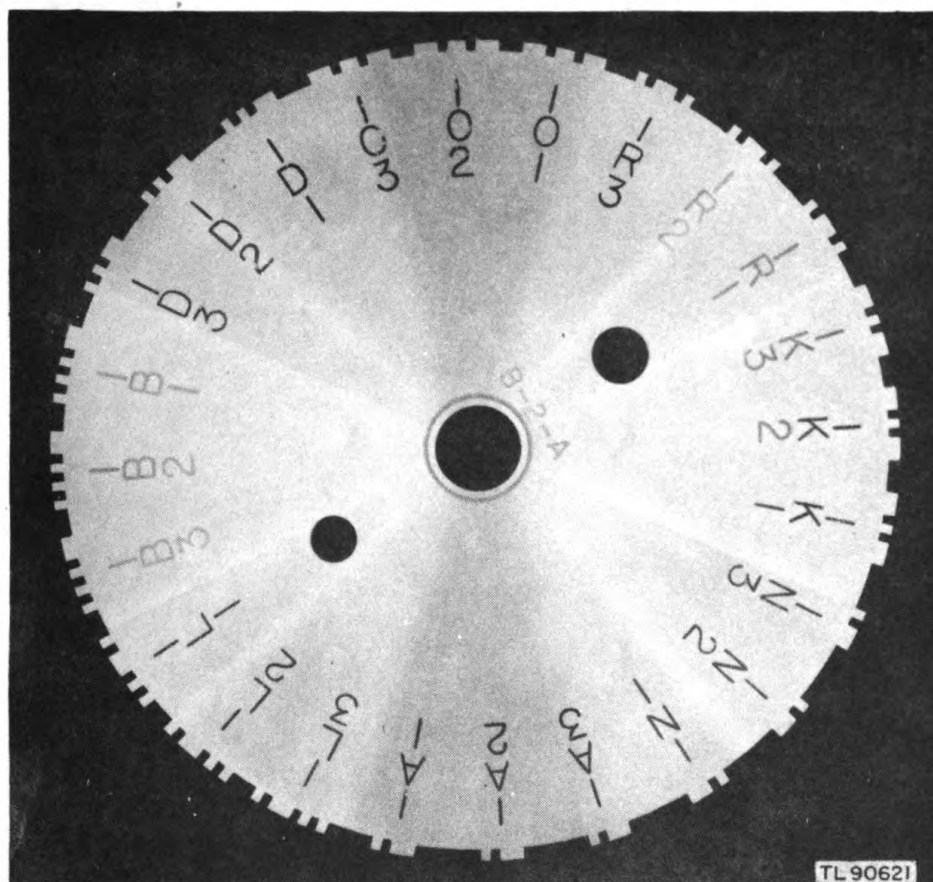

Figure 18. Code disc.
18. CODE DISC. The code disc (fig. 18), is a 16-gauge, stainless-steel disc $5\frac{1}{2}$ inches in diameter. The edge has teeth cut to form characters in International code when rotated against the V-shaped keying contact. Eight different characters, each repeated 3 times, make a total of 24 characters for the circumference of the disc. This divides the disc into 24 sectors of 15° , or one character for each sector. Each sector is stamped with the character and the number of its order in the group of three characters. These markings are visible through the opening in the compression-insulator plate when the code disc is in use. Both